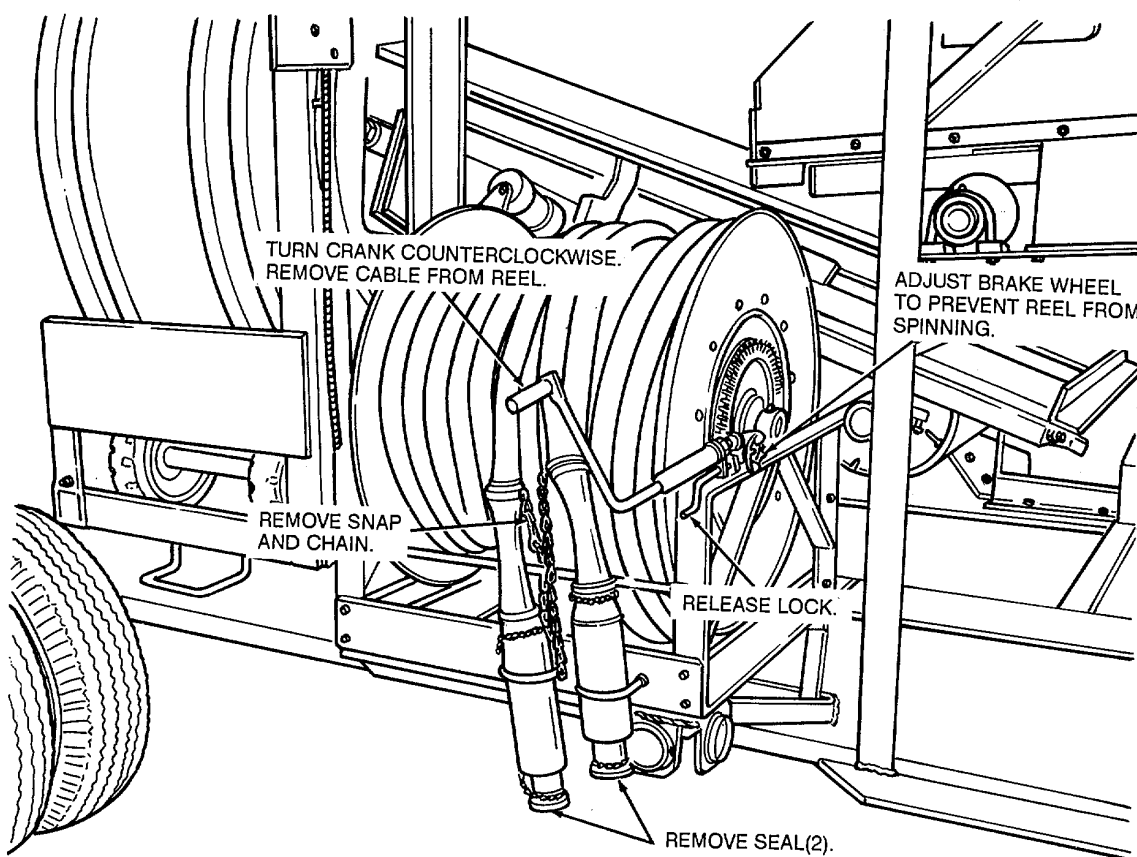

Figure 9. Main power cable installed on reel.
i. Remove the main power cable and the feeder jumper cable from their reels (figs. 9 and 10).
- f.* Install the main power cable on the reel in reverse of the instructions on figure 9 and stow the short main power cable in the toolbox.